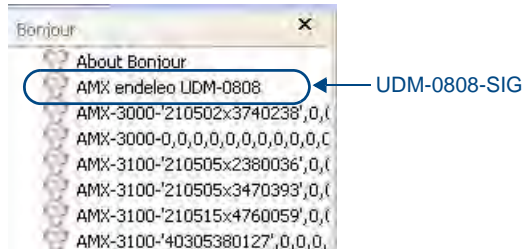

FIG. 15 Bonjour for Windows - example screen
4. The unit's IP Address is displayed in the IP Settings page (FIG. 15).
As shown in FIG. 15, Bonjour for Windows operates as a plug-in to Internet Explorer (version 7 shown), and is displayed in the IE Explorer Bar. If you have installed Bonjour for Windows, but don't see the Bonjour toolbar icon, you may need to "unlock" and expand the toolbars to see it.